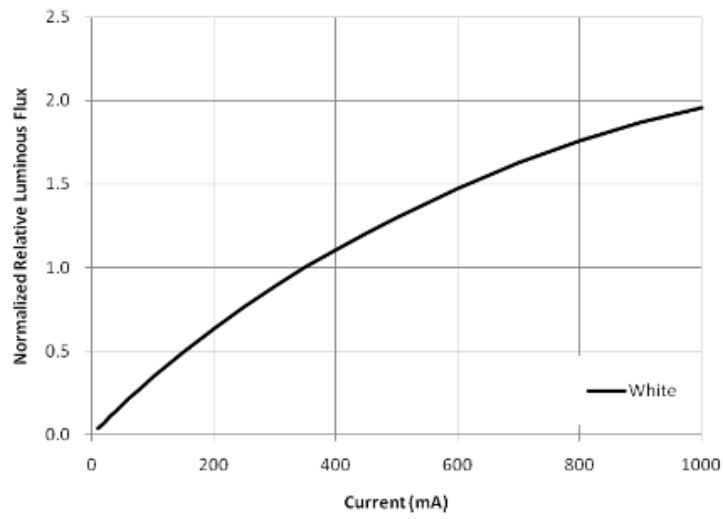

Figure 15. C3535 LED L-I curve
4. Brightness has a strong relationship with driving current as shown in Figure 15.